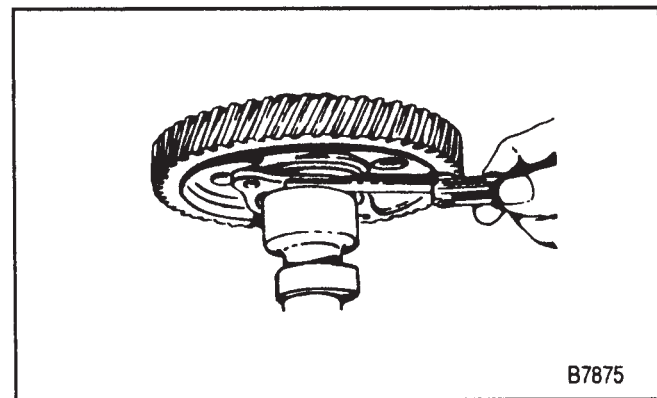

Figure 22—Measuring Camshaft to Thrust Plate Clearance (Camshaft End Play)
**Measure (Figure 22)**
- Thrust plate to camshaft clearance. Use a feeler gage (figure 22). The proper clearance is 0.0015-0.0050 inch. If the clearance is excessive, replace the thrust plate. If the clearance is insufficient, replace the spacer ring. Refer to the Light Duty Truck Unit Repair Manual.